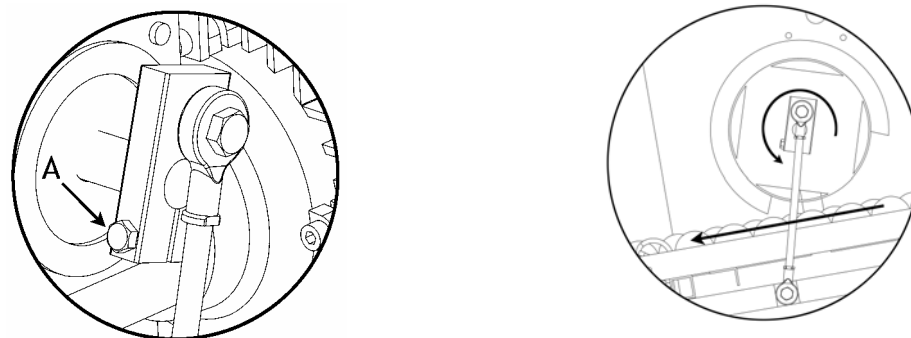

Figure R4, adjusting the brush-stop
- Run the machine to the point that the lift mechanism (13) is in its highest position; loosen the bolts of the axle eccentrics (A) a few
- Rotate the brush, so that the brush-interval point down and the balls roll free under the brush (same as figure R4)